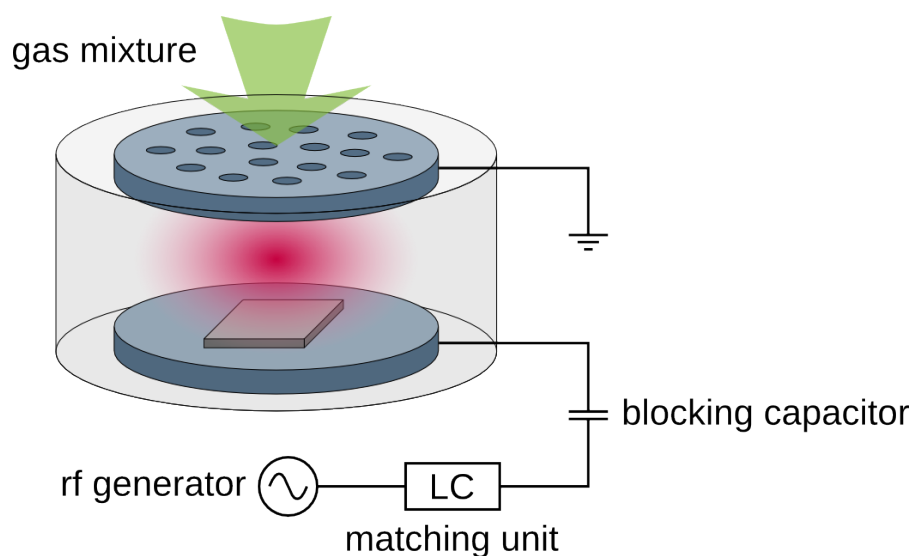

Figure 1: Scheme of the capacitively coupled PECVD reactor.
In this laboratory exercise you will work with radio frequency (RF) discharge called capacitively coupled plasma (CCP). CCPs are used in many plasma enhanced CVD (PECVD) processes and also in etching of materials. The sketch of frequently used configuration of PECVD reactors is in Fig. 1. The aim of this exercise is to understand several relationships important for PECVD in CCP and obtain hands-on experience in setting the deposition parameters. After passing this exercise, you should be able to recognize all functional parts of PECVD reactor, measure the leak rate, understand the relation between the gas flow rate and pressure in the reactor and the relation between the power, delivered power and self-bias.